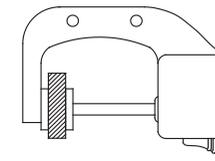

fig.2
- Move the spanner, open the moving tip, put the workpiece between anvils, release the spanner slowly, get the reading when measuring anvils contact the workpiece completely(fig.2)